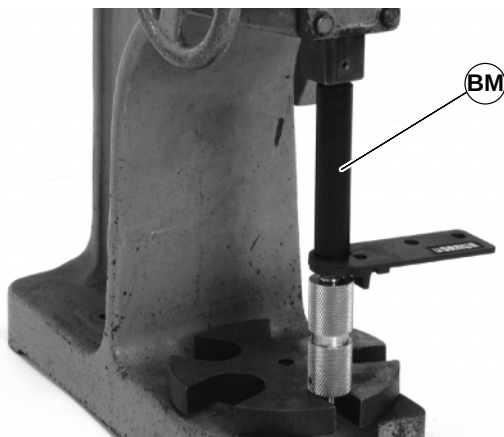

Figure 47
4. With bearing installed in head plate, use a bearing installation tool, (BM of Figure 47), part number 450292, to press the bearing onto the drive shaft.